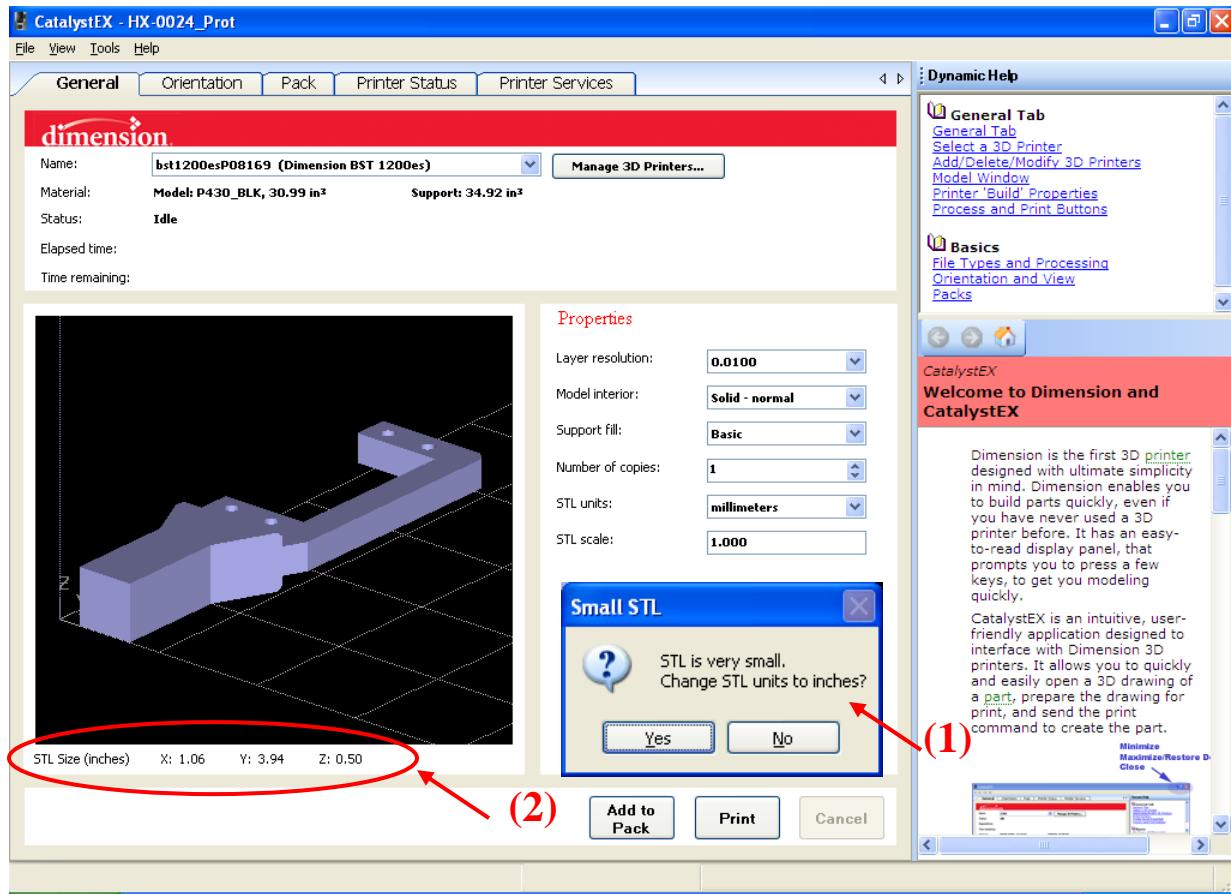

Figure 1.01 – Importing a STL
- Browse to file, and open it (Figure 1.01)
- (1) If a message comes up that says your file is very large/very small, and asks you if you want to switch the units, accept the changes.
- (2) Check that the approximate model size is correct (orientation isn't important).